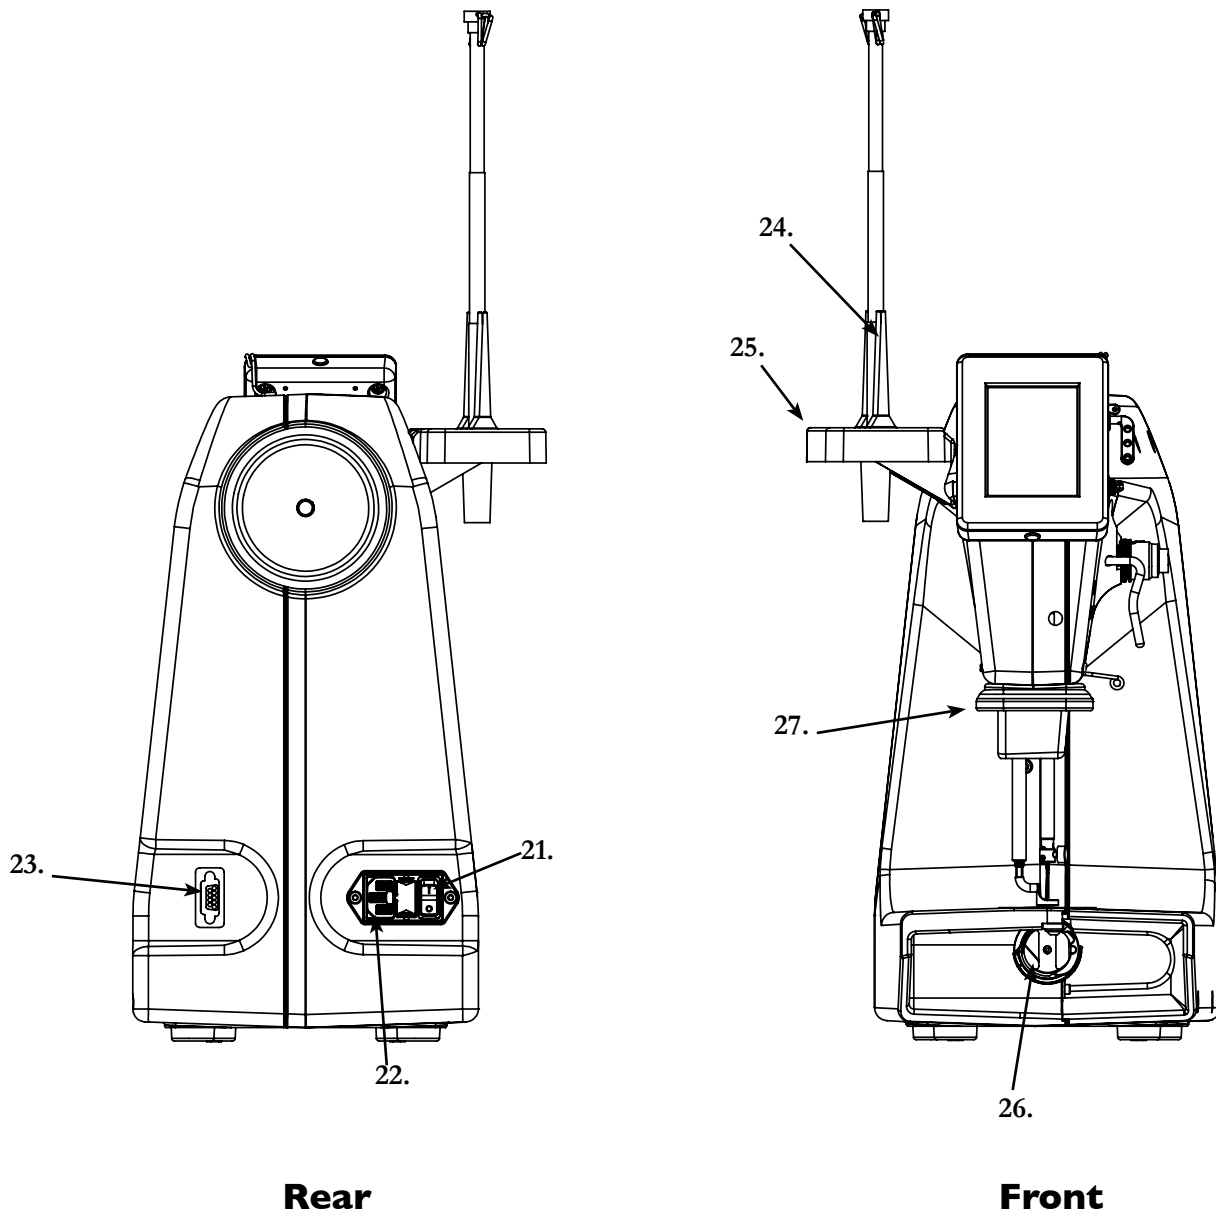

Figure 3
Check that the On/Off switch (page 12, Figure 3, #21) is turned off (the 0 setting). Plug the power cord into the power outlet on the back of the machine (Figure 4). Do not plug the power cord into a power source at this time.
1. Plug in the foot pedal cord end into the foot pedal connector (see page 12, Figure 3, #23).